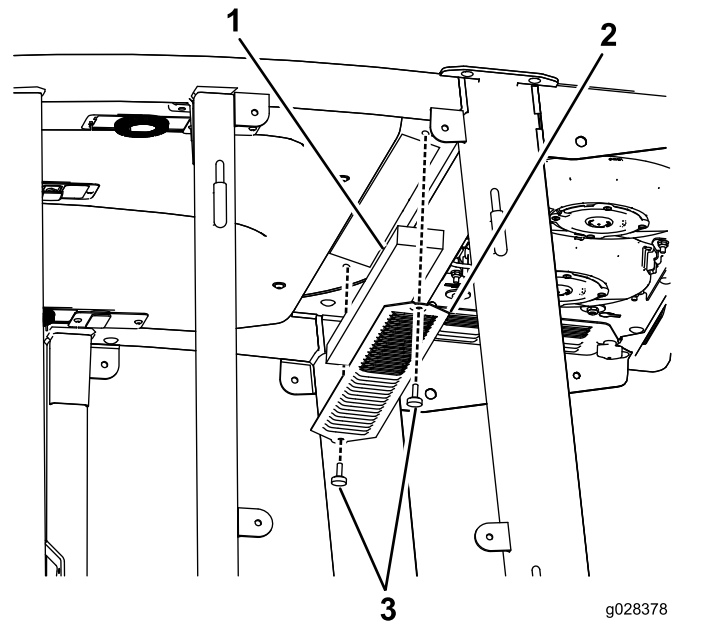
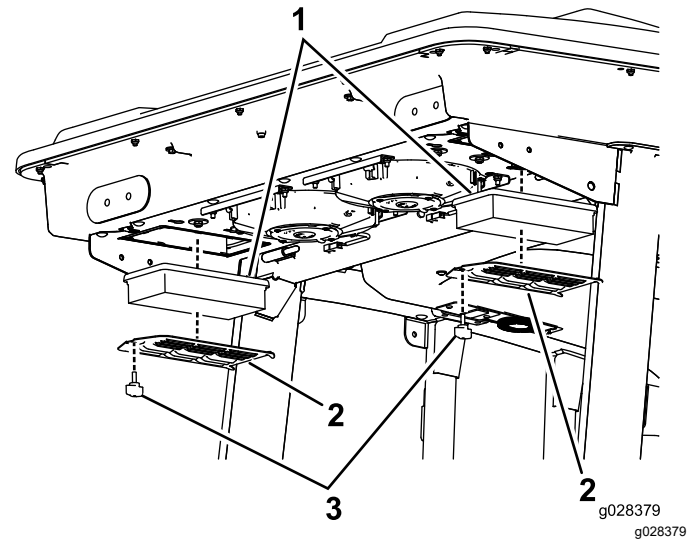
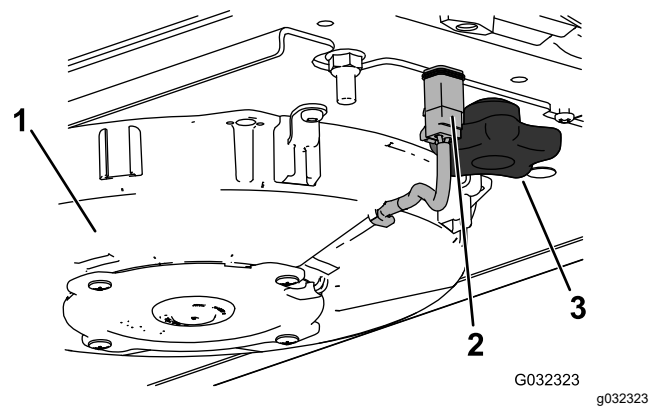
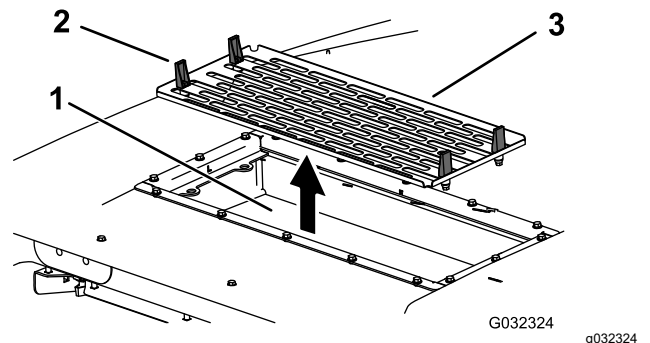

Figure 147
Figure 148
Figure 150
Figure 151
1. Remove the screws and grates from both the in-cab and rear cab air filters (Figure 147 and Figure 148).
4. Remove the air filters (see Figure 148).
6. Install the air filters, screen, and fan assembly (Figure 148, Figure 150, and Figure 151).
7. Connect the wire for each fan (Figure 150).